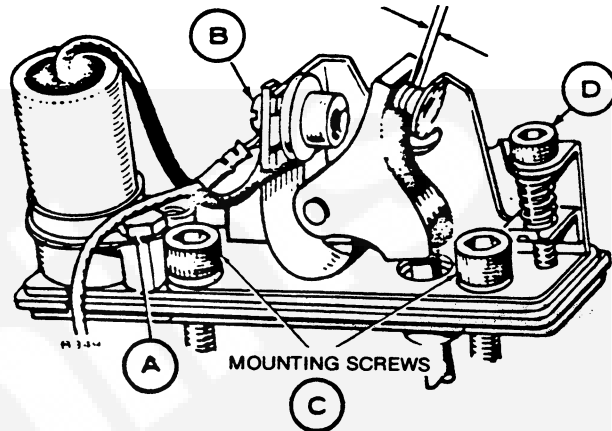
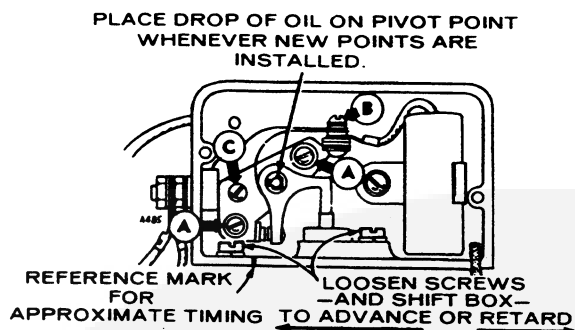

FIGURE 30. BREAKER POINTS—TIMING
FIGURE 31. BREAKER POINTS—TIMING
3. If timing marks do not line up, readjust point gap. On engines with Top Adjust Breaker Points (Figure 30) to advance timing, slightly open gap on breaker points, to retard timing slightly close gap on breaker points. On early engines if timing needs adjustment loosen the mounting screws on breaker box (Figure 31) and move it left to advance or right to retard the timing.
3. Remove condenser (screw A) and detach condenser lead and coil lead (screw B), Figure 30.
4. Remove two allen screws (C) and lift breaker assembly from engine.
3. Remove the two mounting screws (A) and pull the points out of the box just far enough so screw (B) can be removed. See Figure 31. Replace points with a new set but do not completely tighten mounting screws (A).
4. Rotate flywheel clockwise (facing flywheel) by hand until points are fully open. Turn screw (C) until point gap measures .020 inch with a flat thickness gauge.
- Each time new breaker points are installed, place a drop of oil on the point's pivot point (Figure 31).